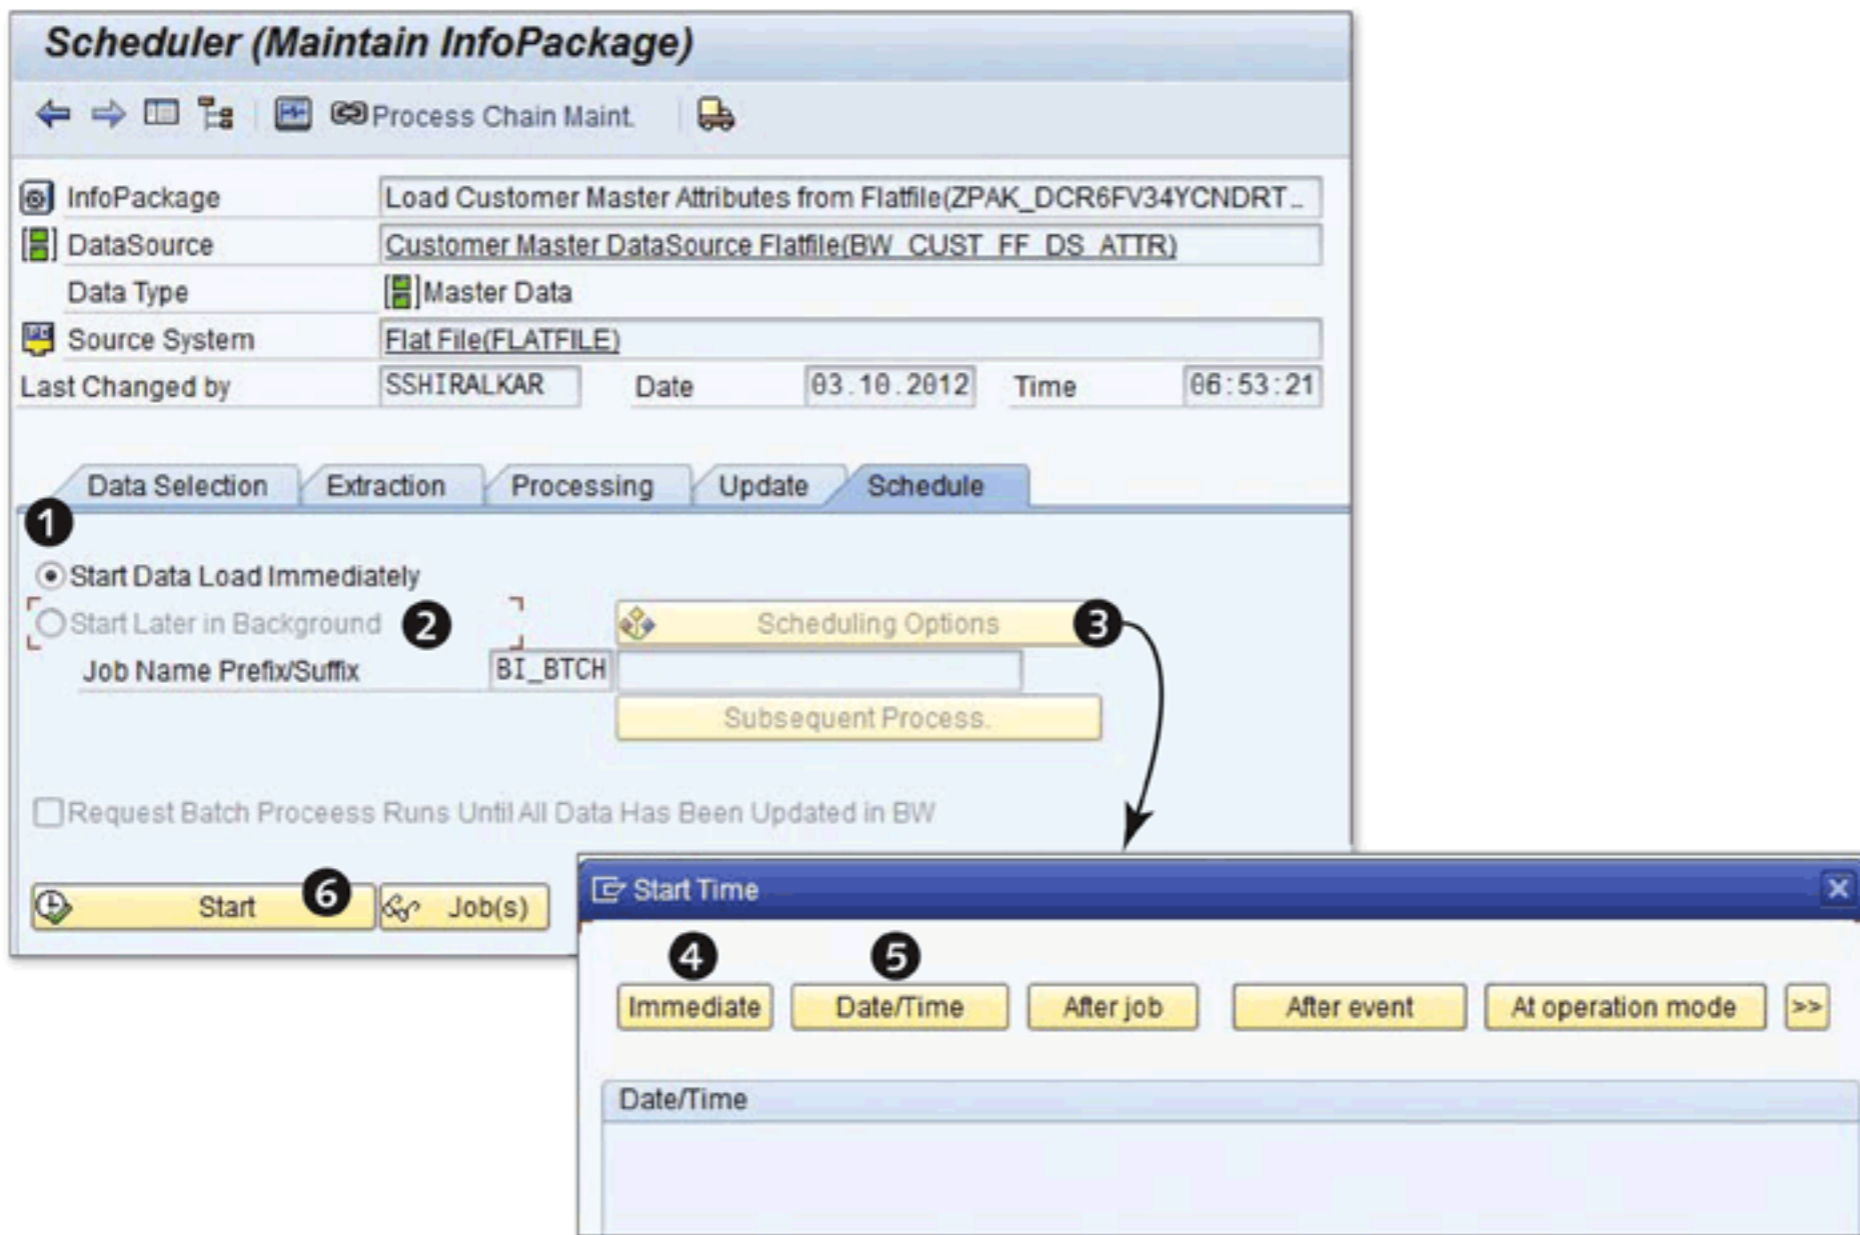

Figure 7.36 Creating an InfoPackage: Schedule Tab
Finally, the last tab is the SCHEDULE tab, which allows you to start the extraction by selecting the START DATA LOAD IMMEDIATELY radio button (❶ of Figure 7.36) and clicking on START (❷). Immediate extraction is done only once; if you want to extract data on a regular basis, select the START LATER IN BACKGROUND radio button (❸), and click on SCHEDULING OPTIONS (❹). This results in the START TIME box shown in Figure 7.36.